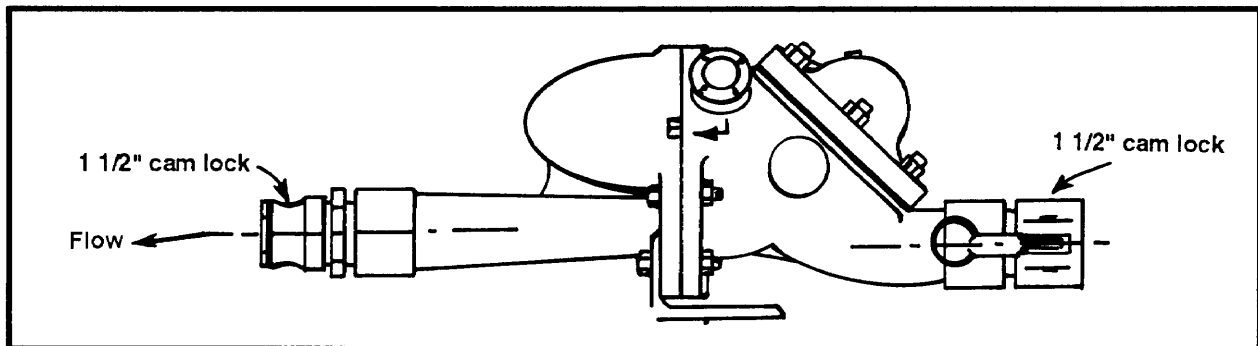

Figure 2-12. Pressure-control valve (1/2-inch)
(10) Pressure-Control Valve (5 psi). This is a 1/2-inch valve assembly (Figure 2-12). The valve is part of the two 1/2-inch dispensing points of the fuel-dispensing assembly, designated primarily for filling nonvented drums. The valve is supplied as part of the fuel-dispensing assembly.